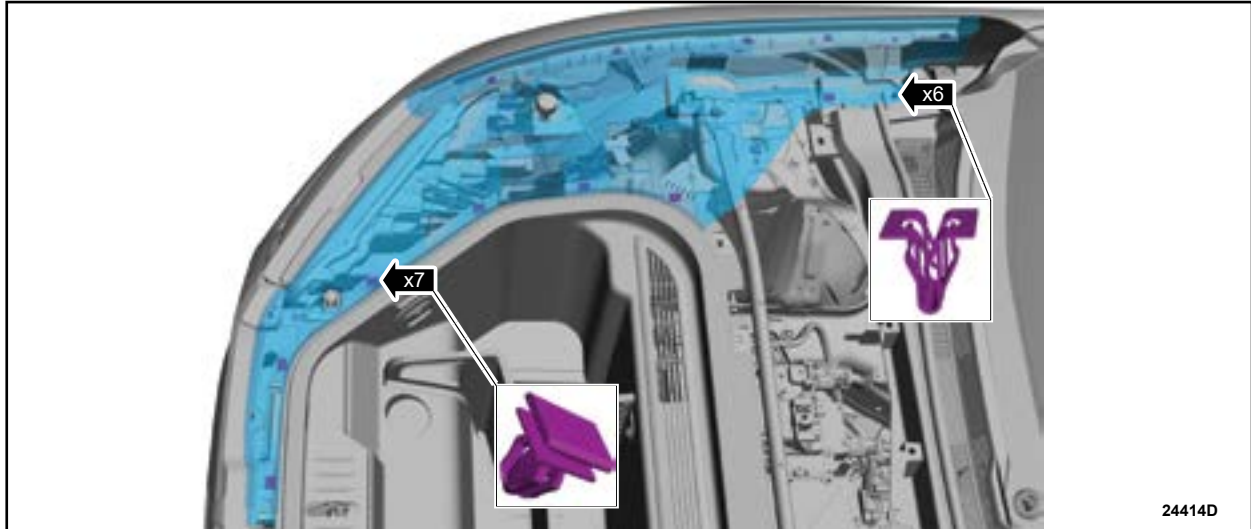

FIGURE 5
14. Remove the Right Hand (RH) Under Hood Cover. See Figure 5.